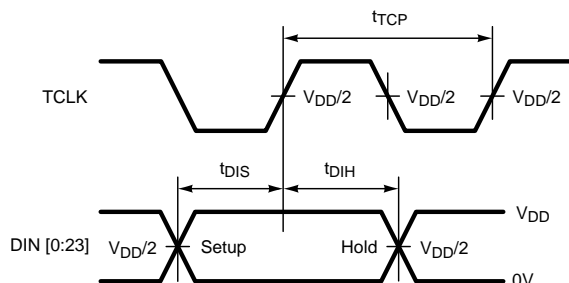

Figure 5. Serializer Setup/Hold Times
(2) Figure 5 and Figure 15 show a rising edge data strobe (TCLK IN/RCLK OUT).
(3) tJIT (@BER of 10e-9) specifies the allowable jitter on TCLK. tJIT not included in TxOUT\_E\_O parameter.